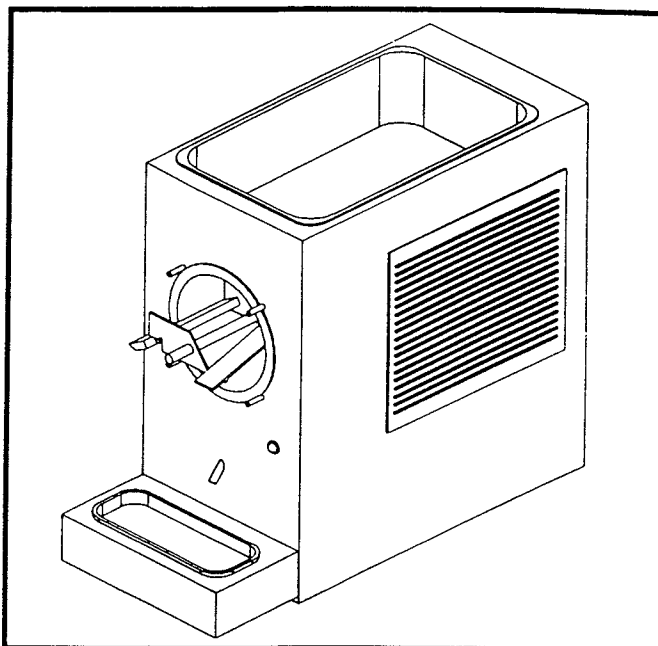

Figure 11
C.Pull agitator assembly out of freezer barrel (Fig. 11).